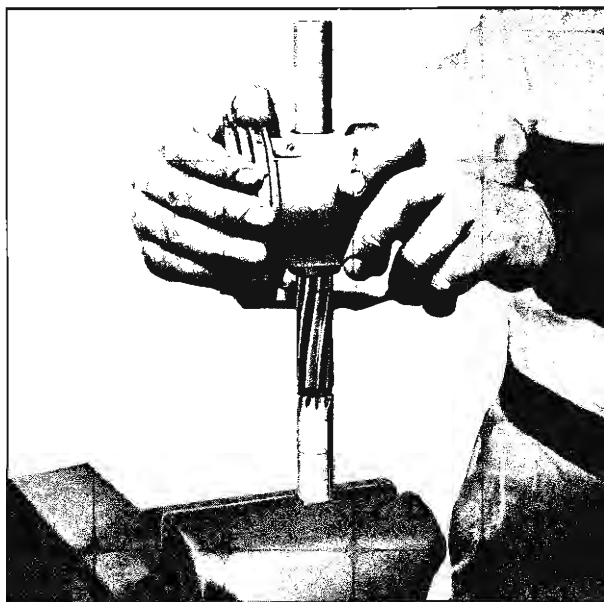

Fig. 34—Reaming Piston Pin Bores
2. Place piston over reamer and start reamer pilot in piston pin bores (fig. 34).